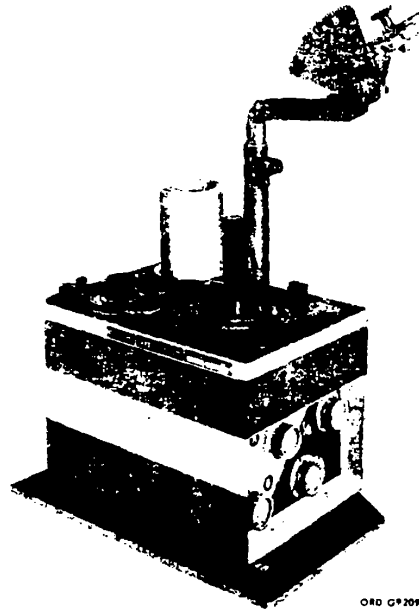

Figure 3. ENTAC GCTU.
(1) *Adaption kit for ENTAC training.* This kit consists of a launching and guidance control training unit (ENTAC GCTU), a support stand, and an electrical cable to connect the GCTU to the computer. Although designed especially for use with the DX-43 training set, the operation of the ENTAC GCTU (fig. 3) is the same as a tactical GCU. The main purpose in using this unit is to develop the operator's "feel of the stick" and teach the firing procedures for firing tactical missiles.